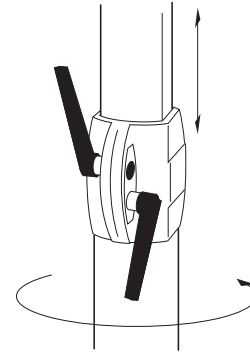

fig. 1
2. For height adjustment (fig. 1), hold upper tube support **firmly** and loosen height clamping lever marked with vertical arrows. Raise to desired height then retighten (if upper tube support is not held firmly, it will spring up when height clamping lever is loosened). **Note:** Once rib assembly and cover are attached to the frame, the pneumatic lift will not spring up with as much force.
3. Release the rotation clamping lever marked with horizontal arrows, rotate sunshade in the required direction and retighten (fig. 1).